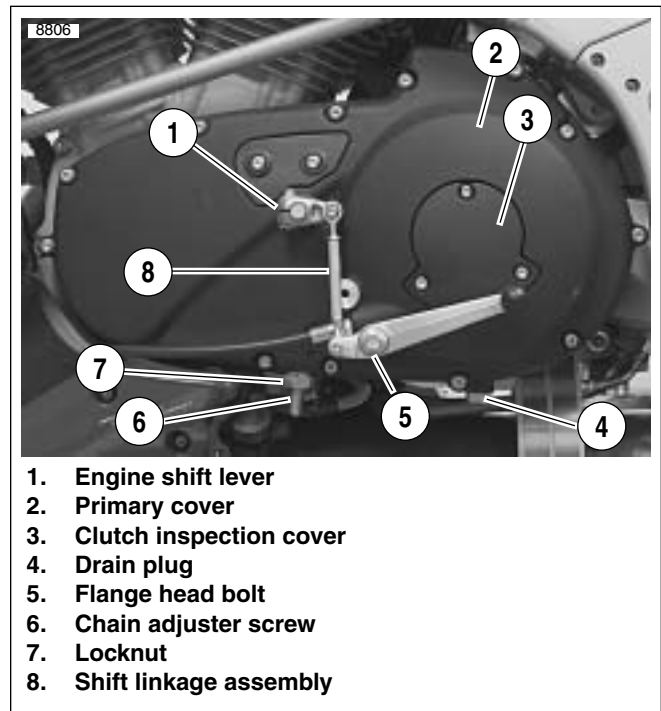

Figure 2-100. Installing Shift Linkage
4. See Figure 2-100. Install rubber washer and engine shift lever assembly (1).
5. After applying LOCTITE 272, install flange bolt (5) and shift pedal to primary cover, and tighten to 22-24 ft-lbs (30-32.5Nm).